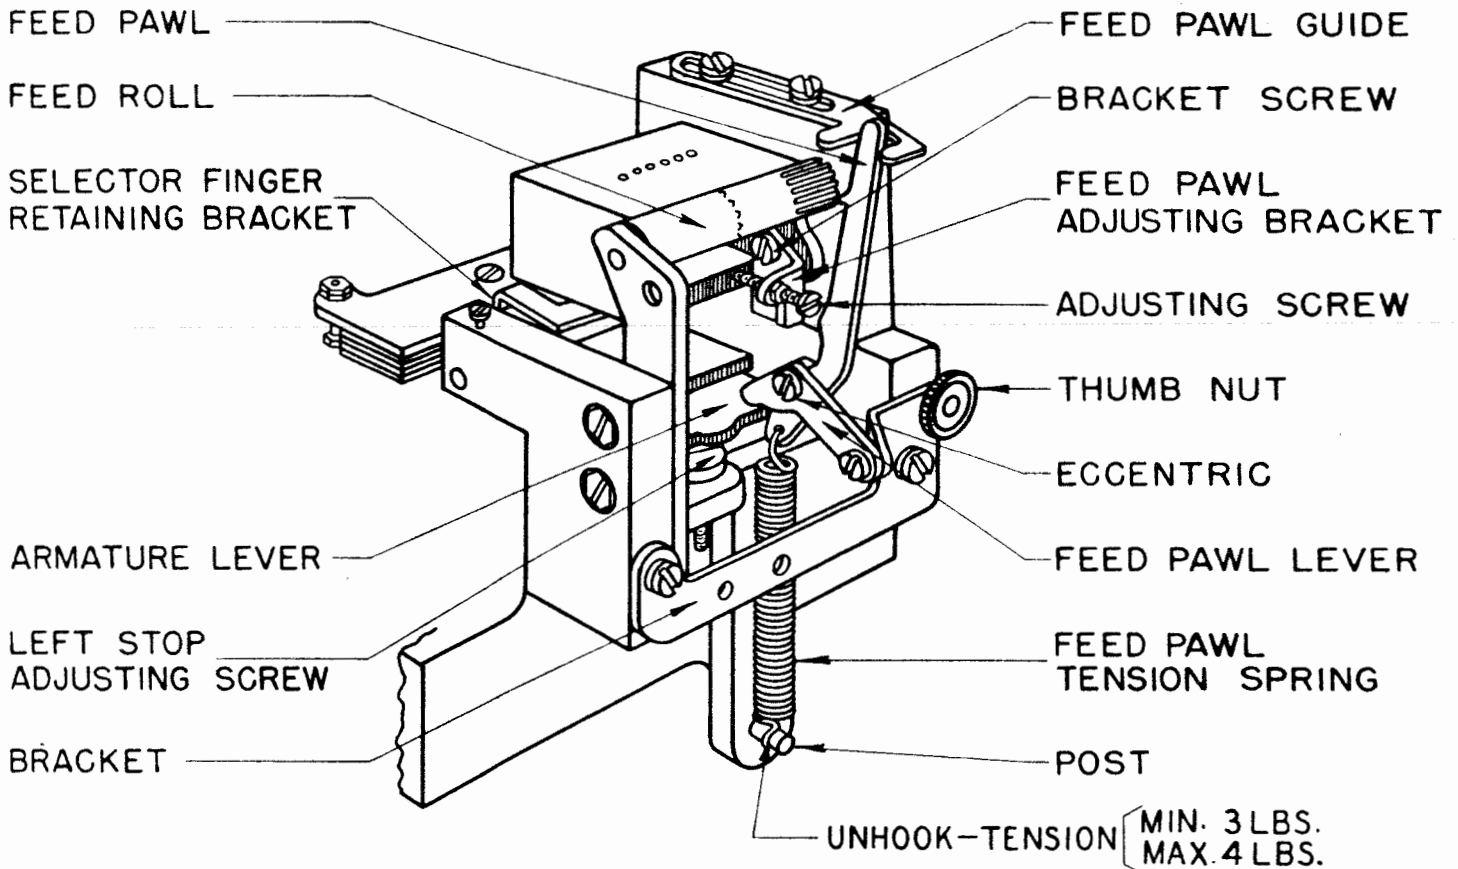

Figure 35
3.21 Feed-pawl Tension Spring: When unit is equipped with TP99037 modification kit feed-pawl tension spring should require from 3 to 4 pounds to stretch it into the post while its other end is hooked in place at the lower end of the feed pawl and the armature lever is in its unoperated position. See Figure 35.
3.46 Feed Pawl - Preliminary Adjustment: (For Final Adjustment See 3.52.) Feed pawl should be adjusted so that as the armature lever is raised until the feed-punch-selector finger just touches the feed punch, the tooth on the feed pawl just engages the tooth on the roller without overtravel. See Figure 35 for identification of parts.
3.48 Feed-pawl Adjusting Bracket should be adjusted so that when the armature lever is firmly against its left stop, the tip of the tooth on the feed pawl clears the tip of the teeth on the feed roll by minimum 0.005 inch, maximum 0.015 inch. Try one full revolution of the feed roll, holding the detent roller away from the star wheel. See Figure 35 for identification of parts.